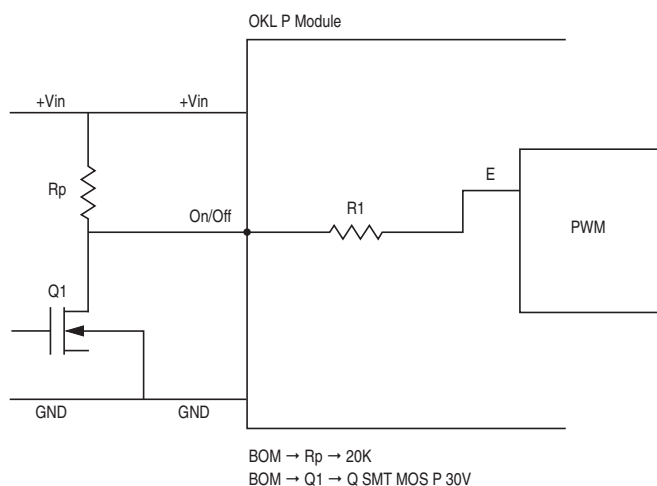

Figure 6. On/Off Circuit Control for Using Positive On/Off Logic
the voltage at the sequencing pin will be 50mV when the sequencing signal is at zero. See figure 6 for R1 connection for the sequencing signal to the SEQ pin.
The OKL Series power modules can be specified with either a positive or negative logic type. See Figures 6 and 7 for On/Off circuit control. In the positive logic on/off option the unit turns on during a logic high on the On/Off pin and turns off during a logic low. In a negative logic on/off option, the unit turns off during logic high and on during logic low. The On/Off signal should always be reference to ground. For positive or negative option, leaving then On/Off pin disconnected will turn the unit on when input voltage is present.
**Positive**—Units are enabled when the on/off pin is left open or is pulled high to +Vin. The On/Off circuit control is shown in figure 6. When the external transistor Q1 is in the off state, the internal PWM enable pin is pull high causing the unit to turn on. When Q1 is turn on, the On/Off pin is pulled low and the units is off. Rp should be around 20K ohms.